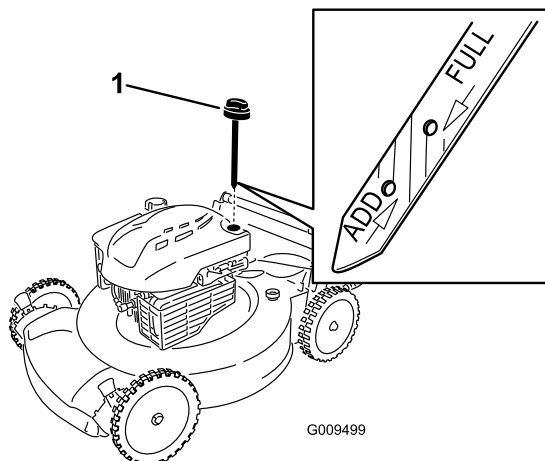

Figure 25
2. Remove the dipstick (Figure 25).